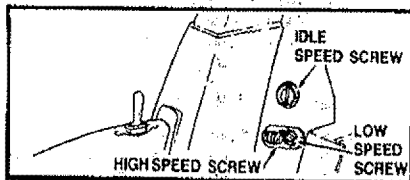

Figure 41
- Locate the three (3) carburetor adjusting screw openings to the right of the air filter cover, Figure 41.